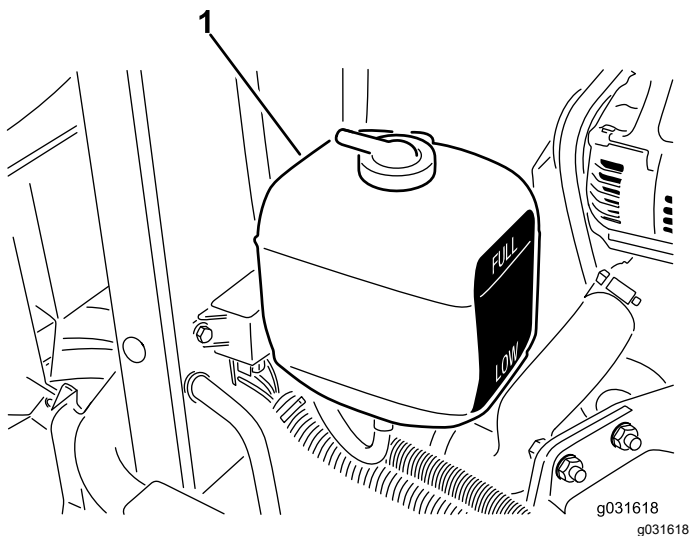

Figure 55
1. Check the coolant level in the expansion tank (Figure 55).